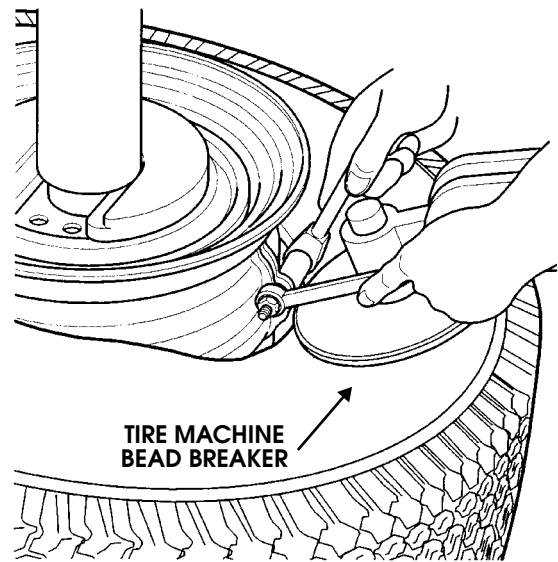

Figure 6-22: Beadlock Unbolting
10. Access beadlock bolt, nut, and washers. Position the upper bead breaker disc on the outside tire bead, opposite the air valve, and break the bead from the wheel (Figure 6-22).
- a. IF TIRE MACHINE IS CAPABLE, continue moving the disk downward until the beadlock bolt, nut and washers are exposed (Figure 6-22).